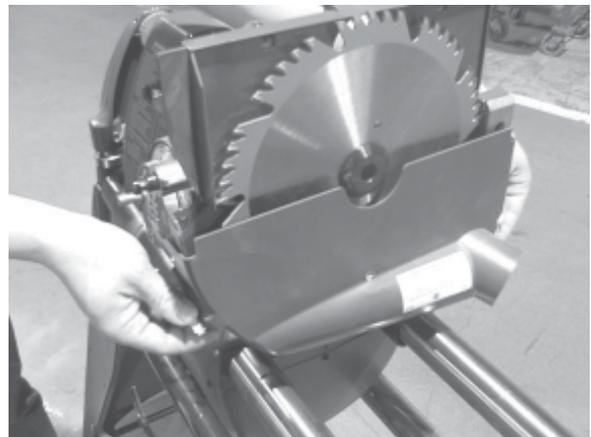

Figure C-87
5. Mount the sanding disc all the way onto the main spindle. Tighten the setscrew against the flat of the spindle. Move the guard cover towards the disc until it is 1" away. Tighten the two knobs. See Figure C-87